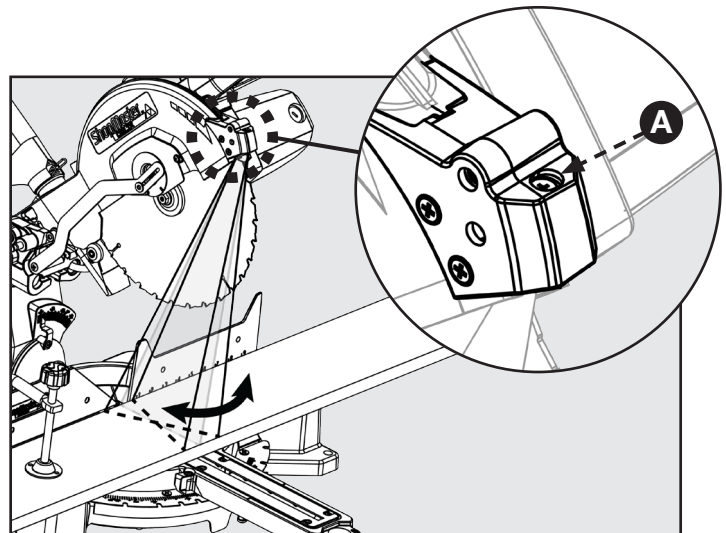

FIGURE 23
If you notice the laser line is not perfectly parallel with the saw blade refer to Figure 23 and follow these instructions: using a Phillips head screwdriver turn screw (A) until the laser line is parallel with the saw blade.